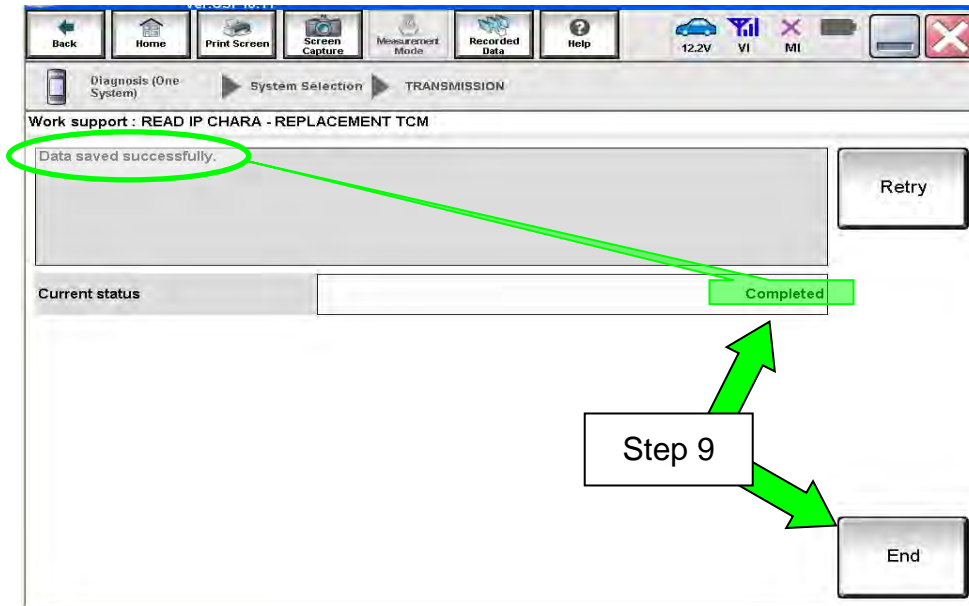

Figure A4
- When the calibration data has been saved to the CONSULT PC, the message “**Data saved successfully**” will be displayed and **Current status** will indicate **Completed** (see Figure A4).